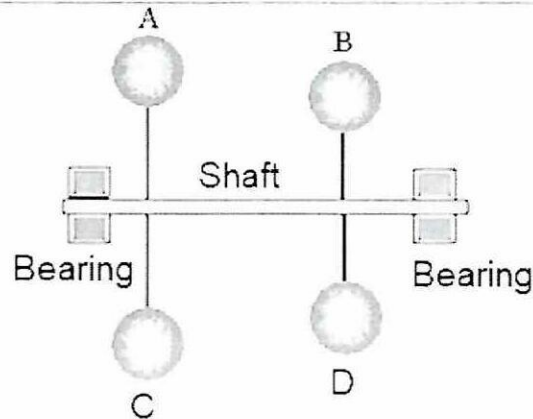

Figure Q4 (a)
- Q4** (a) (i) Describe the physical phenomena if a rotating shaft as shown in **Figure Q4(a)** is “unbalanced”.